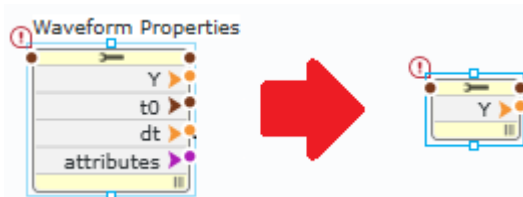

Figure 6-20 Resizing functions like **Waveform Properties** to display only the properties of interest keeps your code clean and readable.
- ii. Place 3 **Waveform Properties** functions on the diagram and wire the waveform output from each filter into the **Y** input. Since we only care about the array of data, you can shrink each waveform properties function down to a single element, as in Figure 6-20.